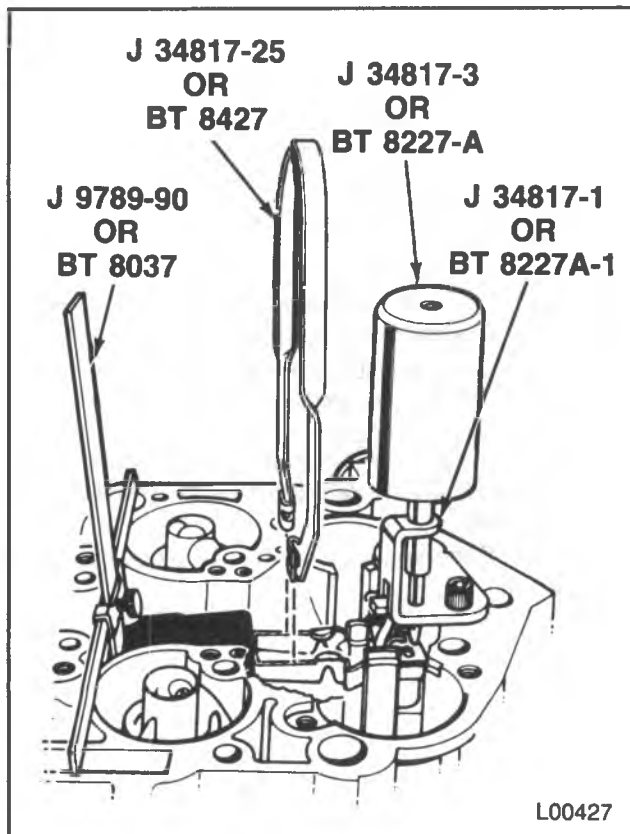

Figure 35 — Float Adjustment
1. Remove the air horn, gasket, power piston and metering rod assembly, and the float bowl insert (figure 35).